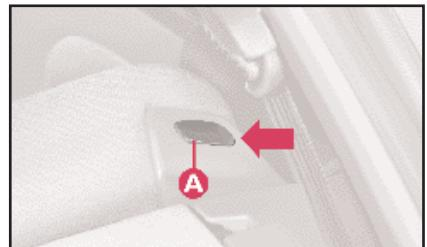

fig. 77
- 3) Release the seat back by pressing button A (fig. 77) (one for each side) located on the back seat back-rest (even when a split back seat is fitted); a red strip will appear on the short side of the button (towards the inside of the car) to indicate that it has been released.